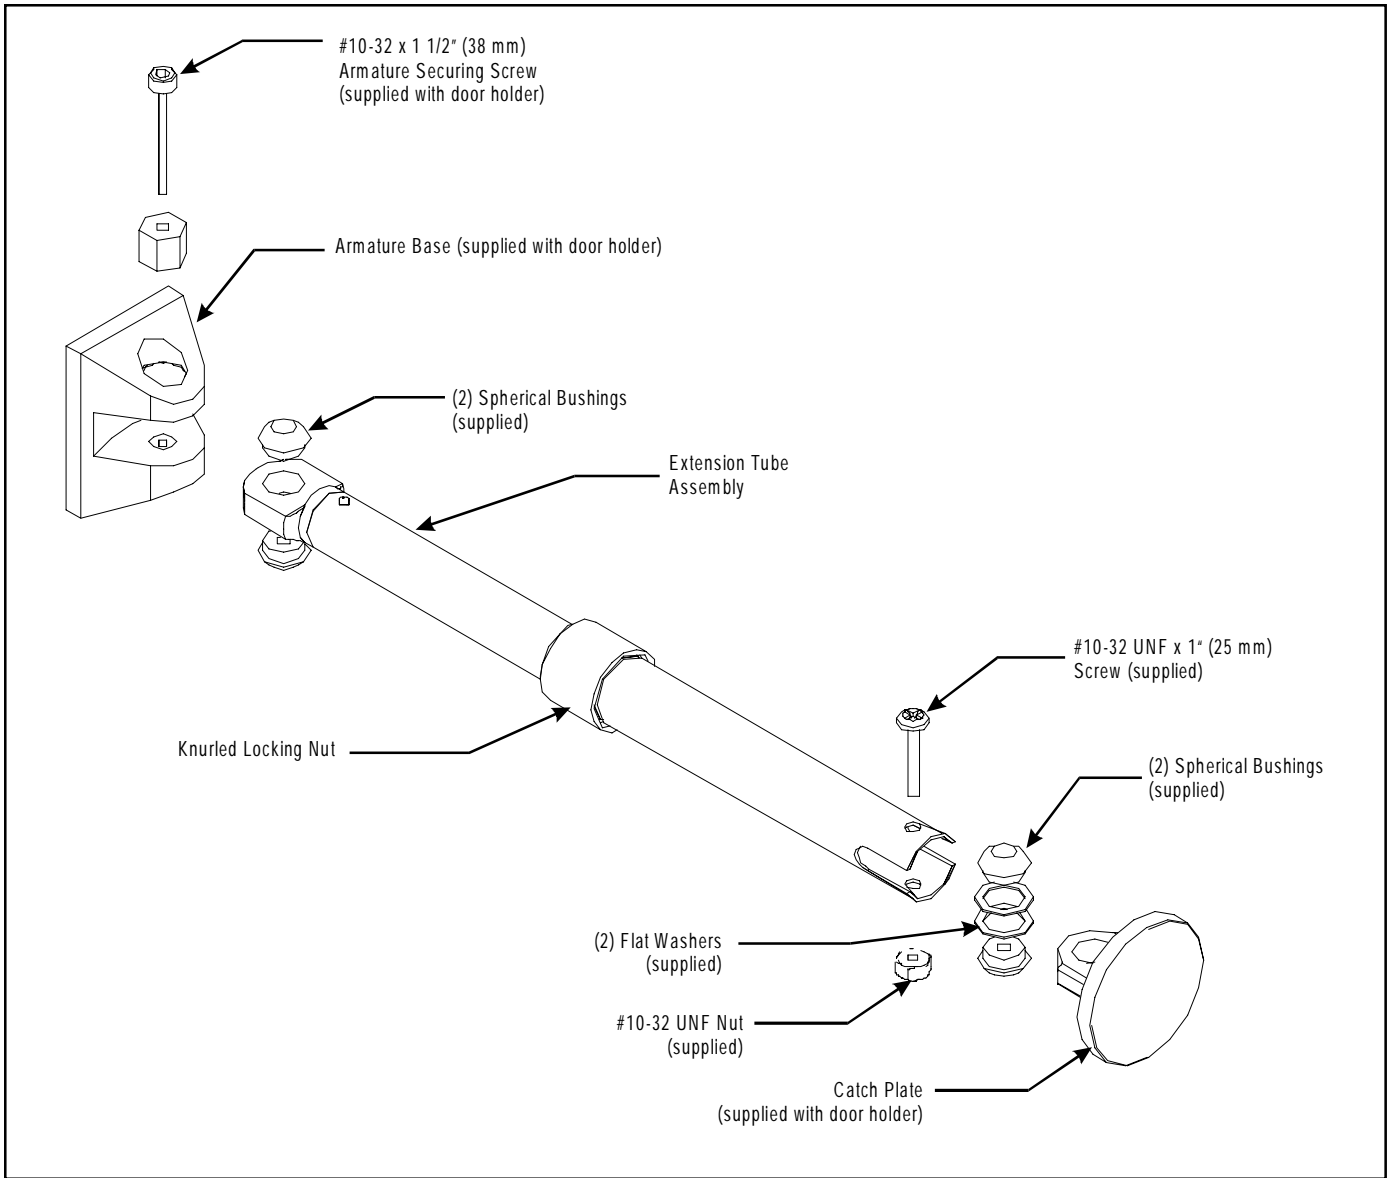

Figure 2. Extension Rod Assembly
- b. Insert spherical bushings (removed in Step 1.a) as shown in Figure 2. If bushings are damaged, replace with bushings supplied with the door holder extension kit.
- d. Insert spherical bushings (supplied) and flat washers (supplied) into the extension rod assembly as shown in Figure 2. Secure catch plate in extension rod using #10-32UNF x 1" (25 mm) securing screw (Figure 2).
- e. Adjust the extension length by loosening the knurled locking nut, extending the rod to the desired length and retightening the knurled locking nut (Figure 2).
- g. After the desired extension length and contact alignment have been achieved, perform the following (Figure 2):
1. Using a 5/32" (4 mm) Allen Wrench (supplied), lock the extension arm into position by tightening the armature securing screw (Figure 2). **Do not overtighten.**